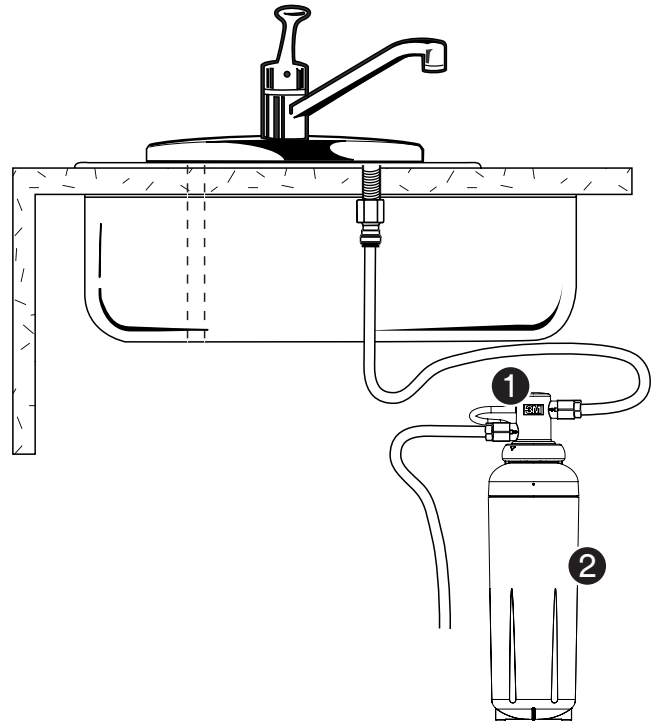

Figure 1
10. Using a tube ferrule, compression nut and tube support (not included), slide nut and ferrule over 3/8" tubing, insert tube support and connect to the cold water supply valve. (See Figure 5) Insert other end into filter INLET fitting as shown in Figure 1.